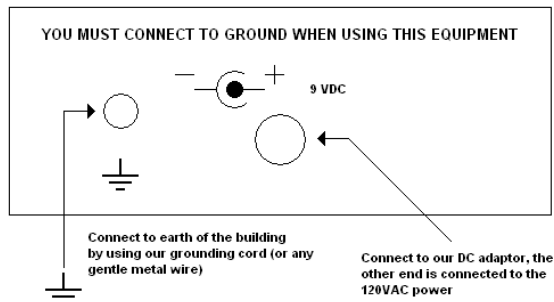

FIGURE 1.
1. Connect the CM-1702 to the earth (ground) or electrical (ground) of the building. The CM-1702 monitor comes with a grounding cord. One end is connected to the back of the monitor; and the other end is connected to the earth or electrical ground. (FIGURE 1.).
2. Connect the 9VDC power adaptor to the back of the CT-1702 constant monitor; the other end is connected to the external AC power supply (FIGURE 1.) connected to the building.